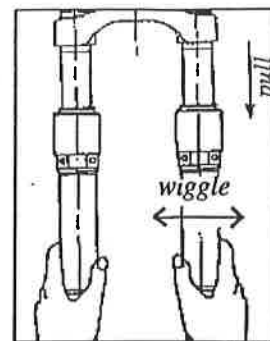

Fig. 2
3. Grasp the sliders with both hands and pull downwards while pushing and pulling the fork legs (Fig. 2).